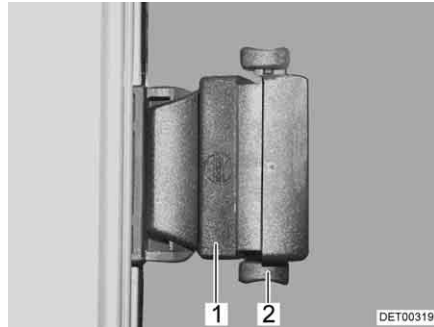

Fig. 79 Sliding window with pressure lock
- Press the lock (Fig. 79,2) upwards.
- Press handle (Fig. 79,1) and push it forward or backward at the same time.